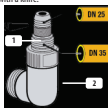

Fig 9
- Screw the connection elbow (1) into the outlet of the pump, with the access pipe upwards. Fig 9
- Connect the nipple (2) into the connecting elbow (1).